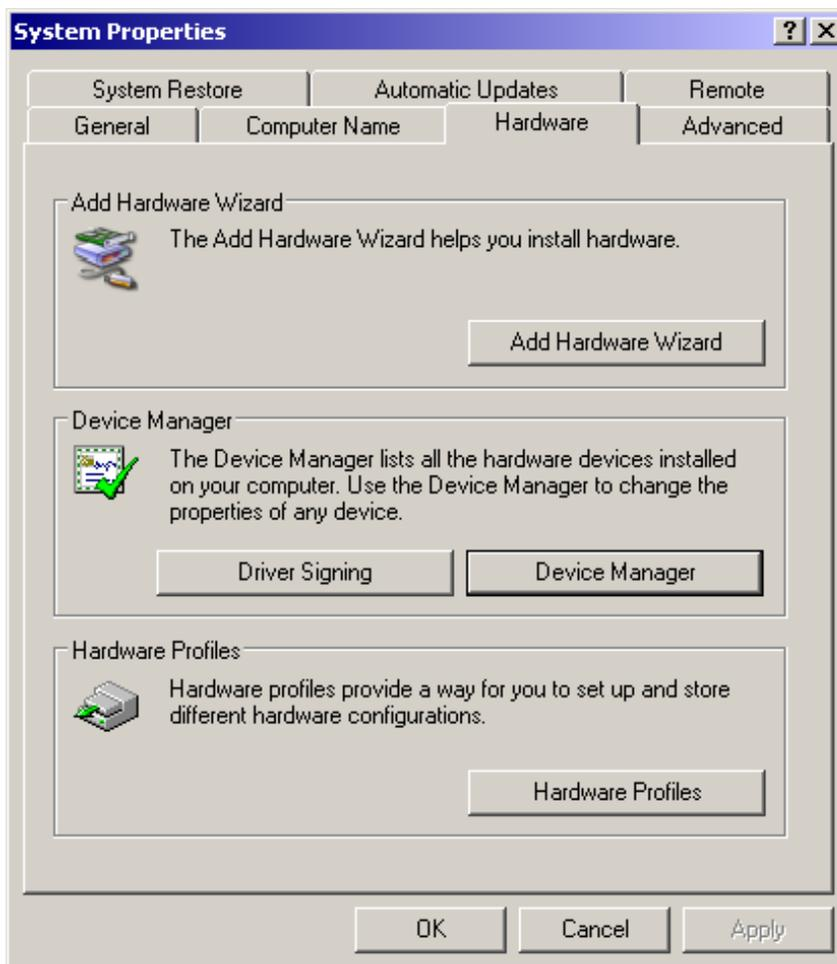

FIGURE 184. System Properties
4. Click on the Device Manager button as displayed in Figure 184.